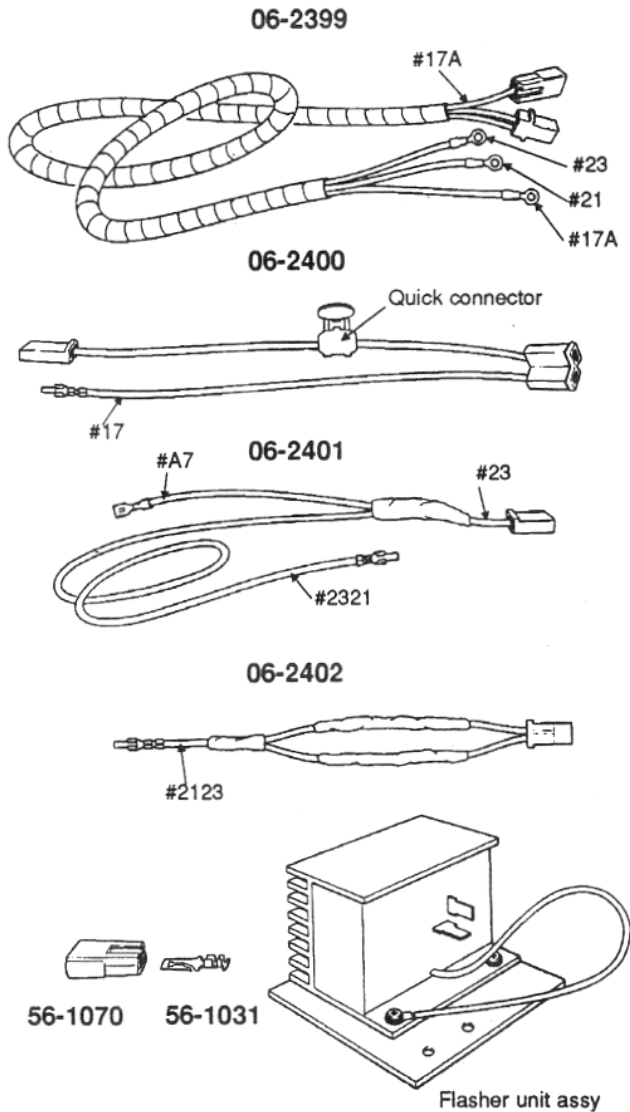
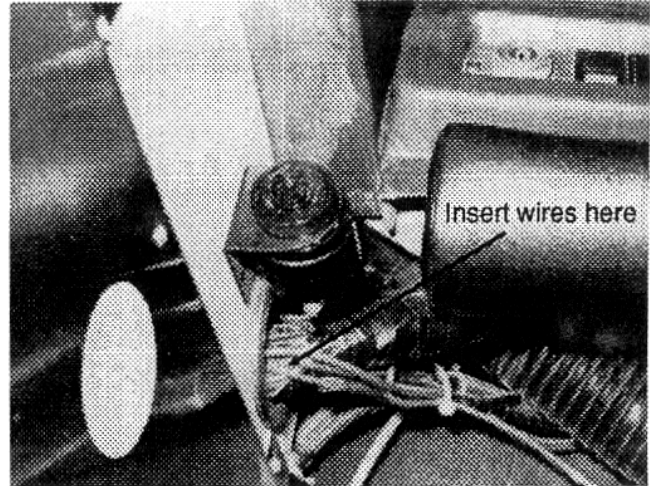
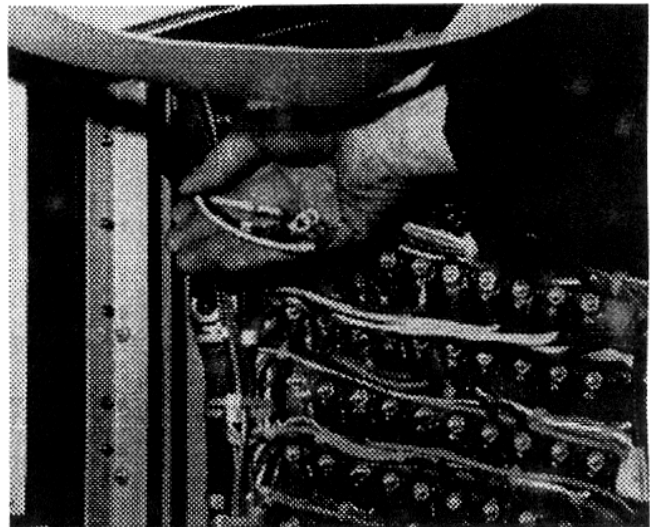

Figure 2
Figure 3
Figure 4
8. Take wire harness # 06-2399 (see fig.2). From inside the vehicle, insert the three (3) wires provided with a ring terminal in the grommet located on the left wall, under the dashboard, (refer to figure 3 for further details), and route them to the front left electric panel (see fig. 4).